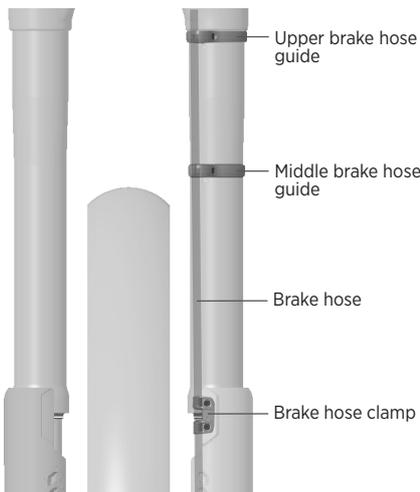

Figure 6: Brake hose routing through brake hose guides and into brake hose clamp
3. Remove the two screws from the middle and upper brake hose guides. The middle brake hose guide is marked with an "M" and has a slightly smaller diameter than the upper brake hose guide (marked with a "U"). Install the brake hose through the opening in each of the guides and install them on the left fork leg (Figure 6). Loosely reinstall the screws.